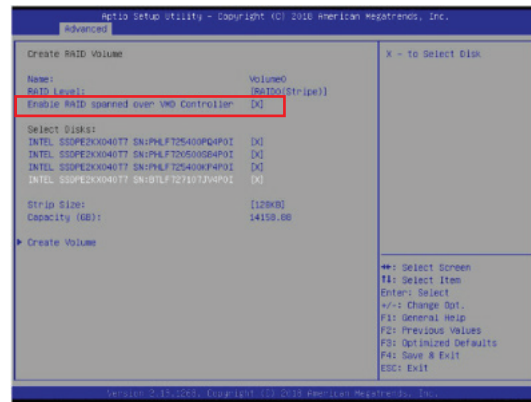

Figure F-4. Created Volume *with* enabling RAID spanned over VMD controller
8. Switch to **Advanced > Intel(R) Virtual RAID on CPU > All Intel VMD Controllers > Create RAID Volume**.
11. If cross-controller RAID is required, select **Enable RAID spanned over VMD Controller** as shown in Figure F-4.